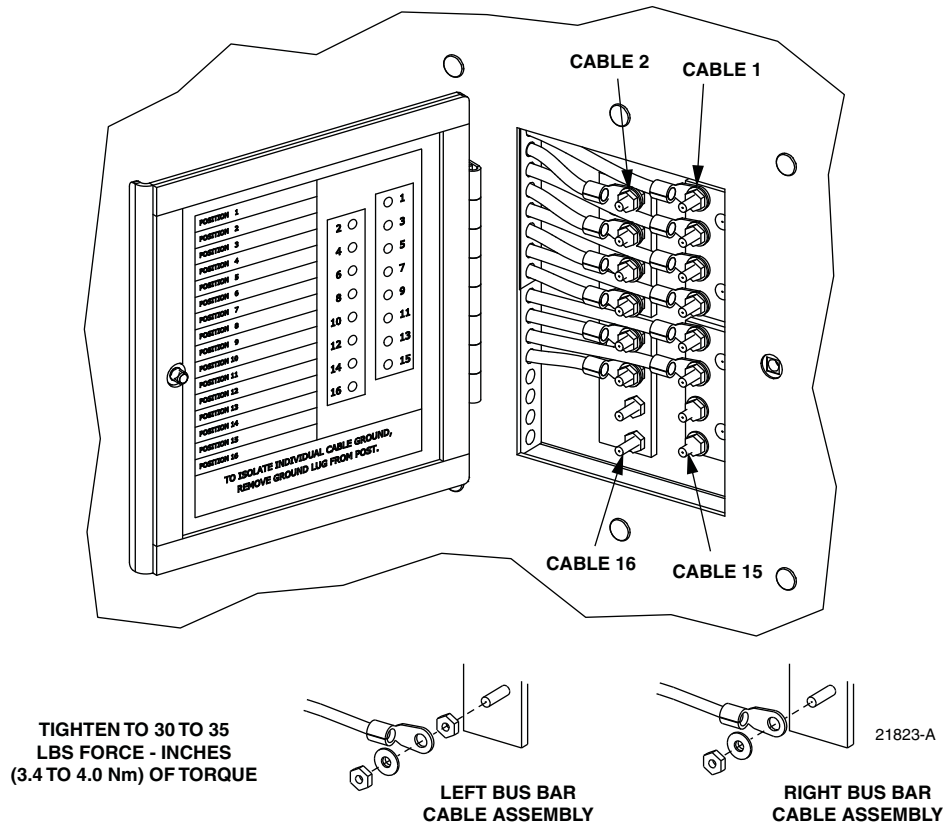

Figure 30. Grounding Block Access Cover
1. Locate the small hinged access cover on the side of the cabinet as shown in Figure 30.